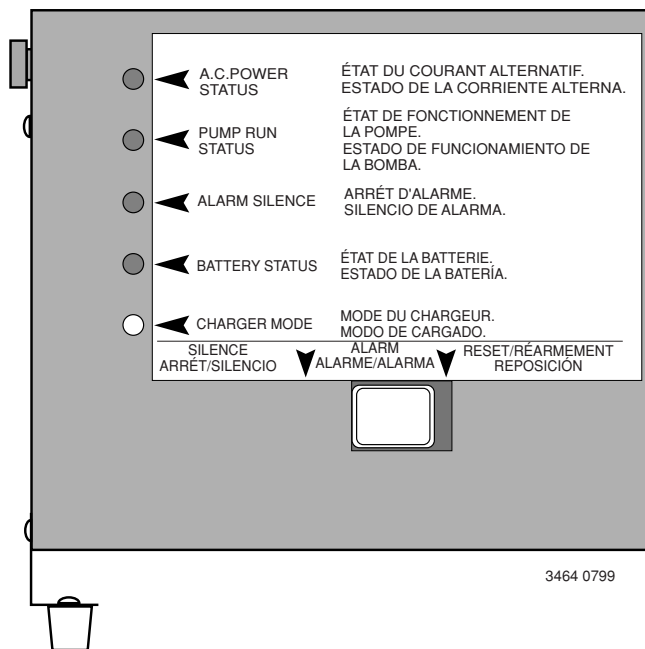

Figure 9 – Panneau à DEL du A5500
3. With the charger properly connected and plugged in, the panel on the front of the charger will show one or more of the following conditions (voir la Figure 9).